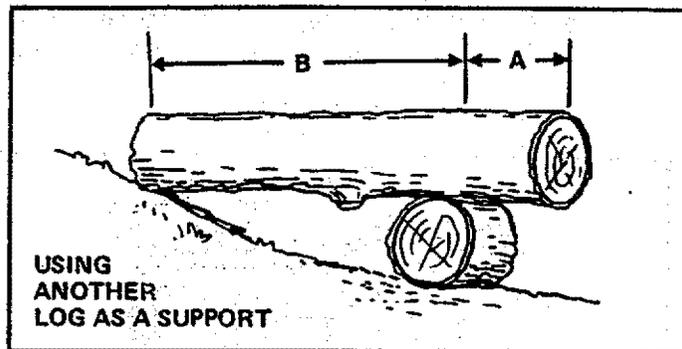

Figure 32
2. BUCKING — USING ANOTHER LOG AS A SUPPORT (Figure 32):